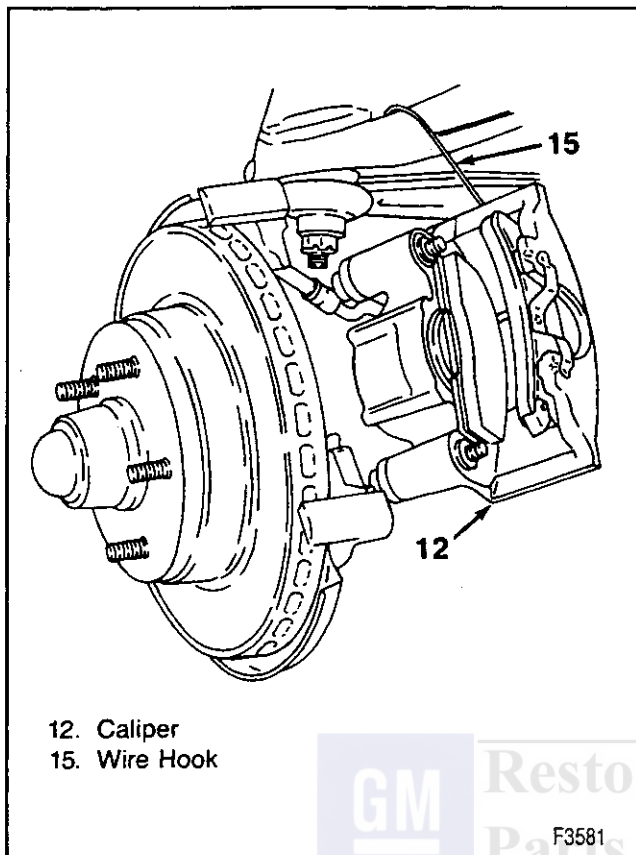

Figure 6—Suspending the Caliper
Remove or Disconnect (Figures 6 through 14)
- Suspend the caliper with a wire hook (figure 6).